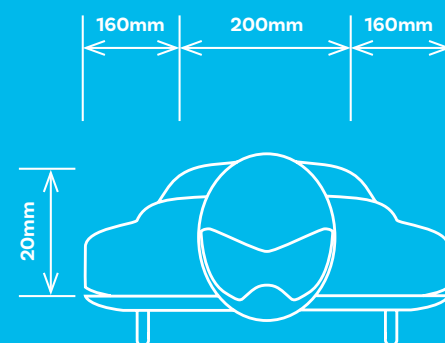

FIGURE MS 9.04
- The athlete's shoulders (figure MS 9.04)
- The front edge of the sled (figure MS 9.04)
- The front of the runners (figure MS 9.04)